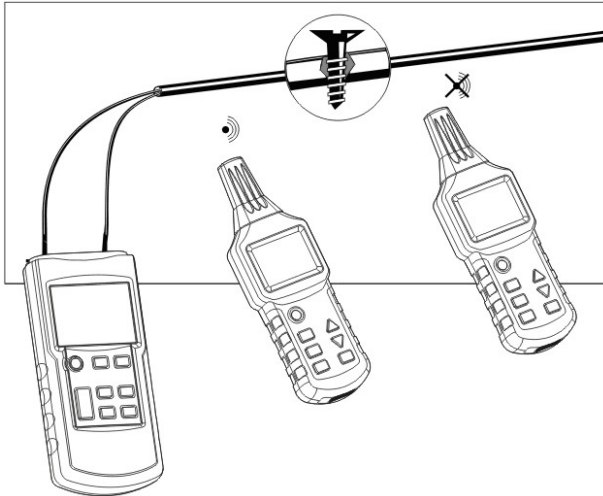

Fig. 20
1. Connect the transmitter as shown in figure 20.